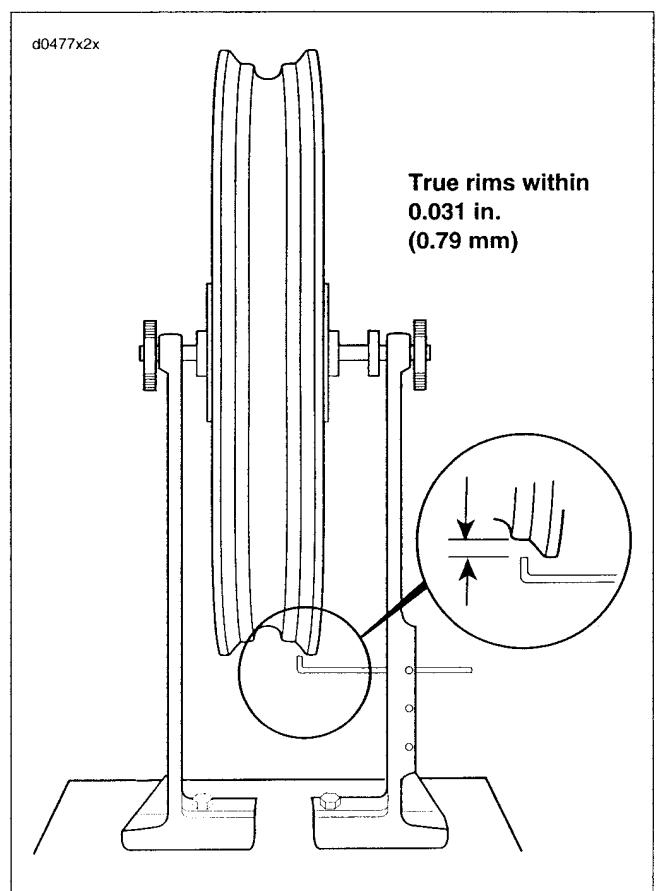

Figure 2-52. Truing Rim Radially
- See Figure 2-52. Adjust truing stand gauge to the rim's tire bead seat as shown. The rim should be trued within 0.031 in. (0.79 mm).